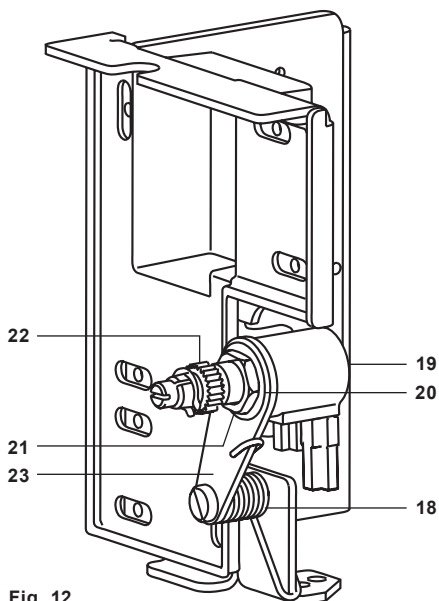

Fig. 12
- Insert the potentiometer (19) in to the actuator metal bracket (23).
- Replace the locating washer (20) and firmly secure the nut (21).
- Then insert the spring (18) to the housing bracket as shown in Figure 12.